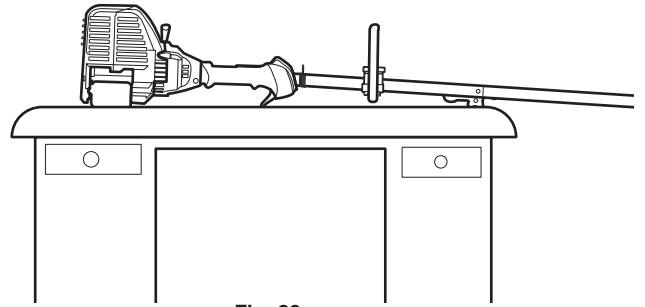

Fig. 29
2. **Set the unit on a flat, level surface**, such as a workbench or table. The cutting head shield should hang over the edge so that the engine is level (Fig. 29).